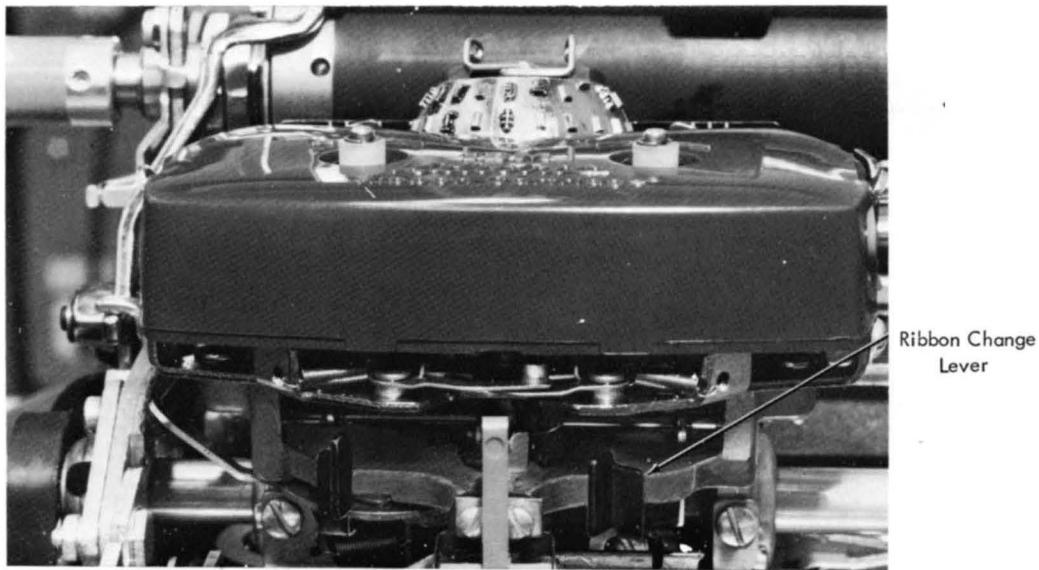

Figure 90. Release — Ribbon Change Lever
4. Raise the ribbon guide by shifting the ribbon change lever to the right (Figure 90).